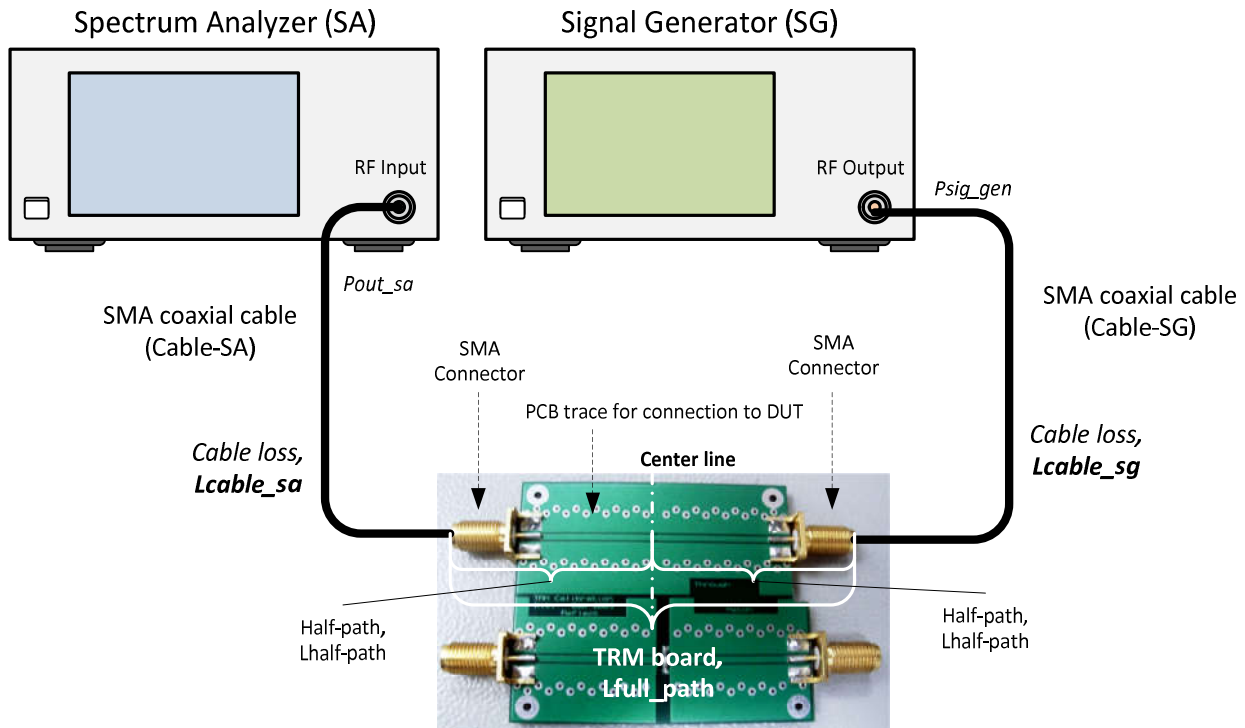

Figure 4 – SMA Connector and PCB Trace Loss Calibration
1. Make the connection as shown in Figure 4.